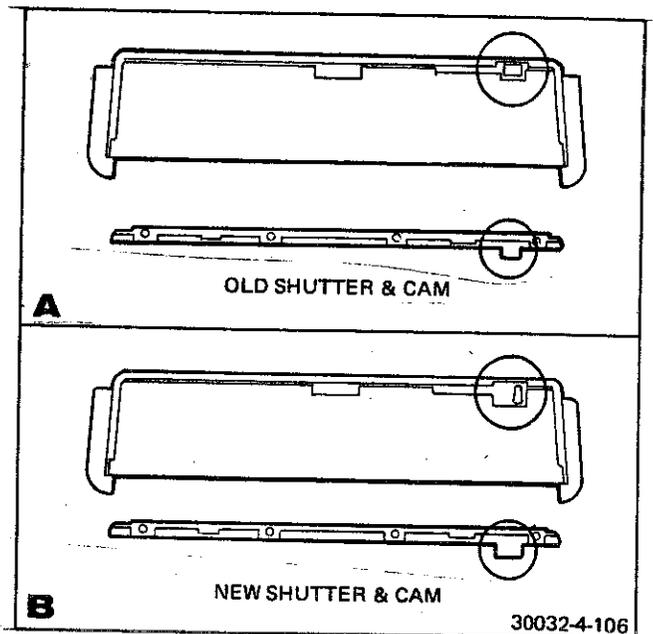

FIGURE 4-106 FRONT COVER LIGHT SHIELD CAM
**NOTE:** A change in the lighten-darken TRIM WHEEL ASSEMBLY overcomes erratic action of the assembly. The cam on the light shield of the Front Cover has been made wider and deeper and the tang of the trim reset lever (shutter) is now a flat bar about 1/16 of an inch wide and appears off center. It is seen as a brass color and also flat black. All replacement shutters will be the new type. The improved shutter will also have a cut out area larger and square in shape than the older version (Figure 4-106).